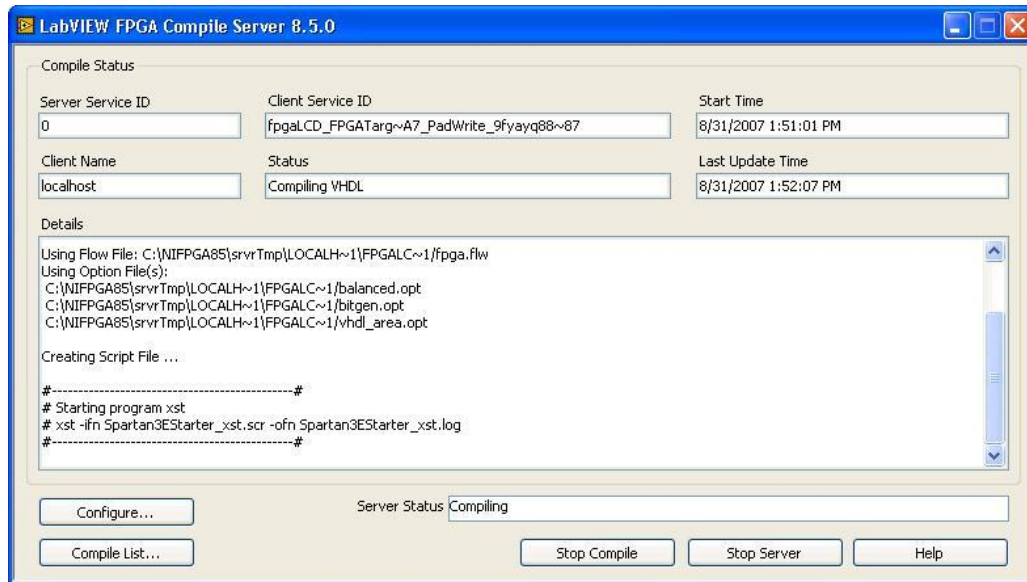

Figure 6: LabVIEW FPGA Compile Server 8.5
5. The LabVIEW FPGA Compile Server 8.5 will show the progress of the compilation. Note that it may take a few moments for the information to populate the fields. The LabVIEW code is now being compiled to run on the Spartan-3E. The status and output of the conversion is shown in Figure 6.